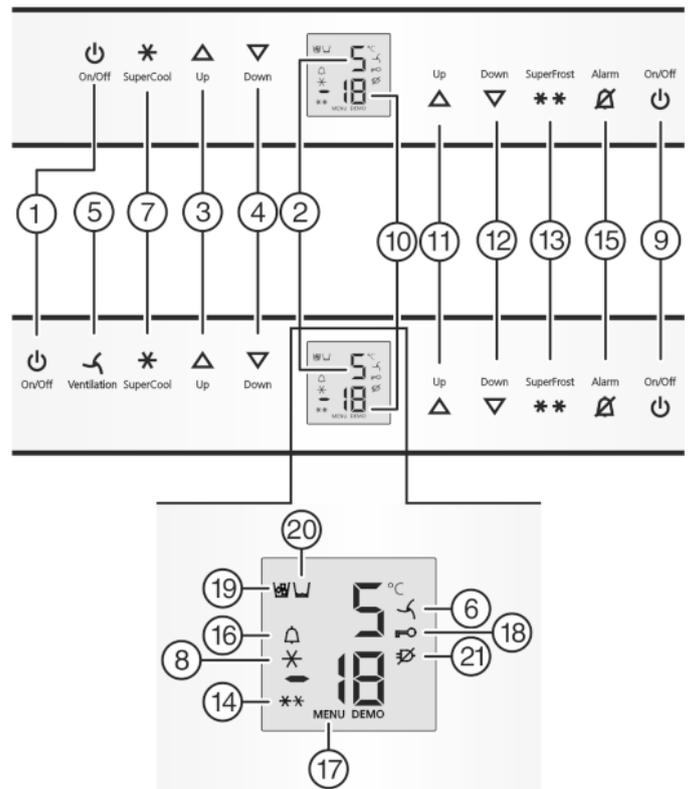

Fig. 2
- ▶ Press On/Off button, freezer compartment *Fig. 2 (9)*.
- ▶ Press On/Off button, refrigerator compartment *Fig. 2 (1)*.
- ▷ The fridge section is on: Fridge temperature display *Fig. 2 (2)* is on. When you open the door the interior light comes on.
- ▶ To activate the setting mode: press SuperFrost button *Fig. 2 (13)* for about 5 s.
- ▷ The menu symbol *Fig. 2 (17)* shines.
- ▶ Briefly press the SuperFrost button *Fig. 2 (13)* to confirm. When **cl** is indicated in the display:
- ▶ To activate the child lock, briefly press the SuperFrost button *Fig. 2 (13)*.
- ▷ The child lock symbol *Fig. 2 (18)* shines. **c** flashes in the display. When **cl0** is indicated in the display:
- ▶ to deactivate the child lock, briefly press the SuperFrost button *Fig. 2 (13)*.
- ▷ The child lock symbol *Fig. 2 (18)* goes out. **c** flashes in the display.
- ▶ To deactivate the set-up mode: press On/Off button, freezer compartment *Fig. 2 (9)*.
- ▶ Press alarm button *Fig. 2 (15)*.
The temperature display and the alarm symbol *Fig. 2 (16)* flash at the same time.
The audible alarm is automatically silenced, the alarm symbol *Fig. 2 (16)* goes out and the temperature display stops flashing when the temperature is sufficiently cold again.